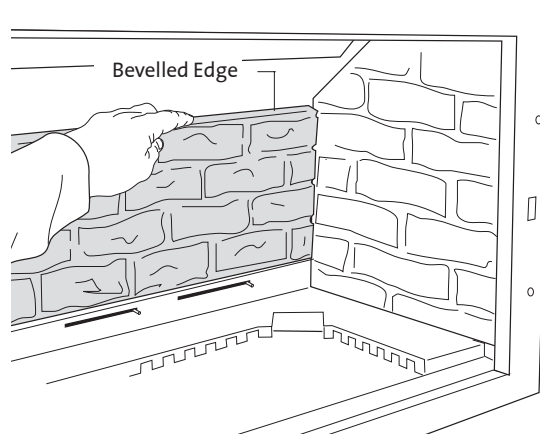

Figure 40. Install Lower Rear Panel.
- 4. Install the Lower Rear Panel.** Orient the panel so that the bevelled edge is on top and the mortar joints align with those on the side panels. Set the bottom edge on the shelf above the restrictor adjustment slots at the back of the firebox. The panel should fit snugly between the two side panels. See fig. 40.